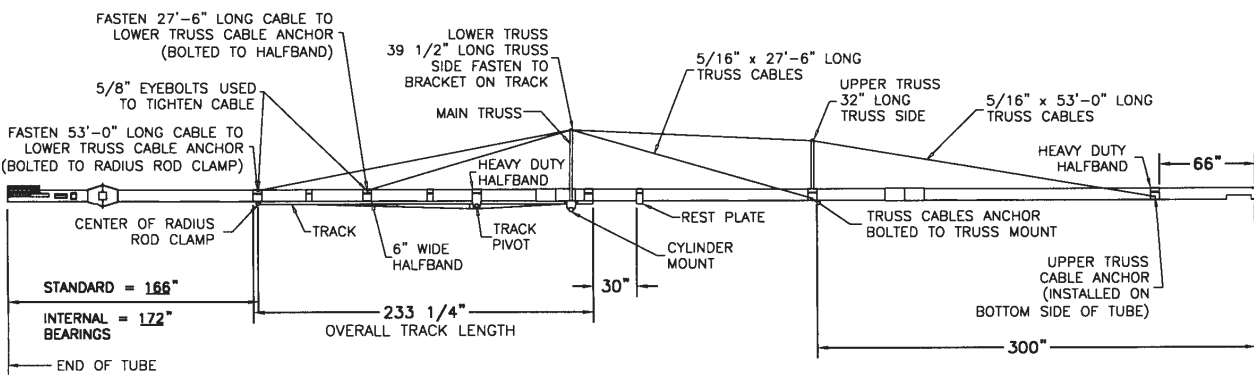

FIG. 40
See Fig. 40 on page 34 for location of track, truss and undercarriage components.
- On 52' models fasten the undercarriage rest plates to the tube with a 4" wide halfband and four 3/8" x 1-1/2" (grade 5) hex head capscrews and nylon locknuts. See Fig. 40 on page 34 for location.
See Fig. 40 on page 34 cable lengths, truss mounts and cable anchor locations.